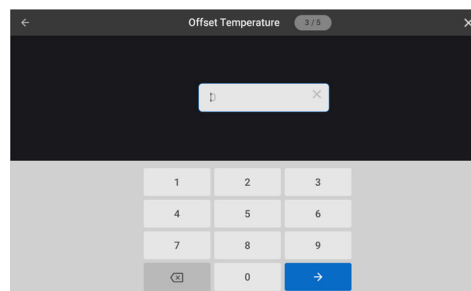

Figure 25: Input Idle Offset
5. Input the “idle” offset temperature and touch the blue arrow button to continue (Figure 25).